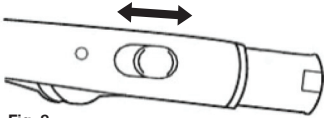

Fig. 8
Your Backpack Vacuum Cleaner also includes a Manual Variable Suction Control on the Flexible Hose Handle (6). This manually adjusts the suction power through the hose by adjusting the suction regulator to the desired position between open and closed (Fig. 8).